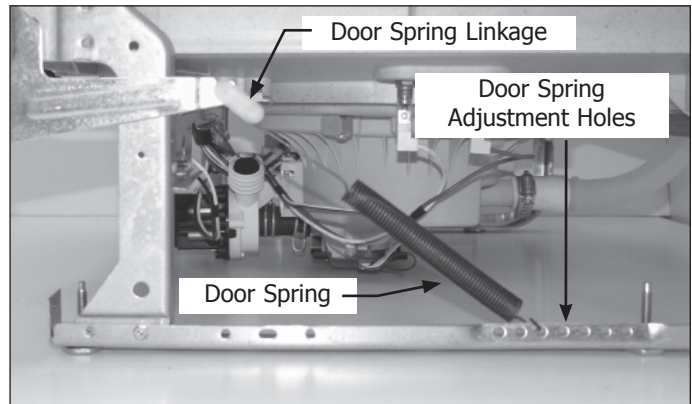

Figure 4-11.
3. Remove spring from adjustment holes in frame. (See Figure 4-11) Remove opposite end of spring from linkage.